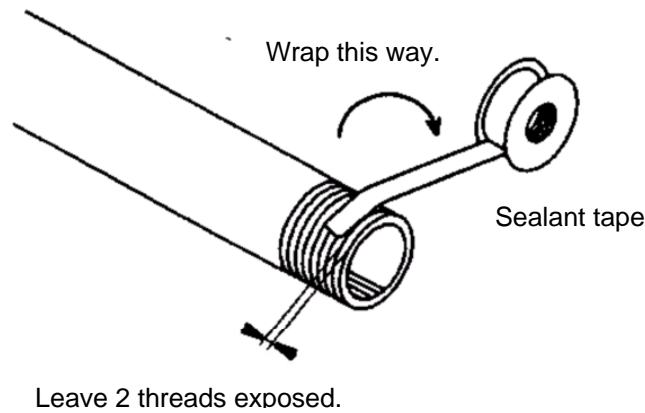

Fig. 2 Sealant tape
- ⦿ **Wrapping of pipe tape (Fig. 2)**